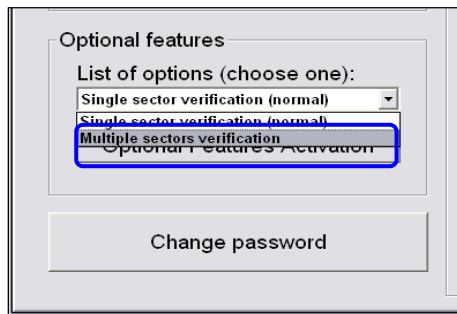

Figure 6: Multiple sectors verification option
2. Click the “Setup” tab and choose “Multiple sectors verification” within the “Optional features” section (Figure 6).